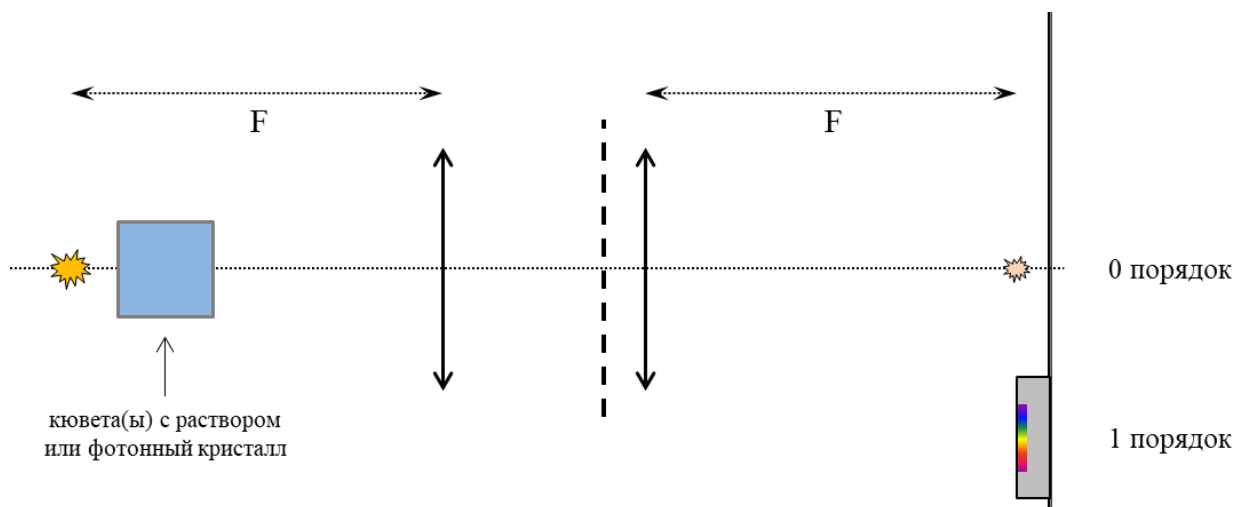

Fig. 2.
The spectrometer will consist of an incandescent lamp (providing a continuous spectrum of radiation), a pair of lenses, a diffraction grating and a one-dimensional array of photodiodes, the data from which is collected into a computer. Attention! When assembling and adjusting the installation, make sure that there are no vertical or horizontal lens shifts: both lenses, the light source and its image (0th maximum) must be on the same axis. Assemble the installation (follow the diagram in Fig. 2): on the voltage source (18), unscrew the current and voltage adjustment knobs to 0; install the incandescent lamp (8) in the tripod (2), apply voltage 12 B to the lamp (this is important! the emission spectrum depends on the temperature of the filament = voltage); position the lens without a diffraction grating (6) so that the lamp is in the focus of the lens (the optical power of each lens is +6 diopters); make sure there is a parallel beam of light behind the lens; place one additional stand (2) between the lamp and the lens (it will be used as a sample holder); place the second lens with a diffraction grating (5) at a short distance from the first lens, the diffraction grating should face the first lens; the lines of the diffraction grating must be located vertically; place the screen (3) at the focus of the second lens.
Assemble the installation (refer to the diagram in Fig. 2):
B1 Take the spectrum of the original radiation. Place the photonic crystal in the holder along the beam path in the system (Fig. 2). Take the spectrum of transmitted radiation. Observe four deep transmittance minima. Determine at what wavelengths λ the transmission minima are observed. Determine which values of m they correspond to. Determine the corresponding values of t . **1.60**